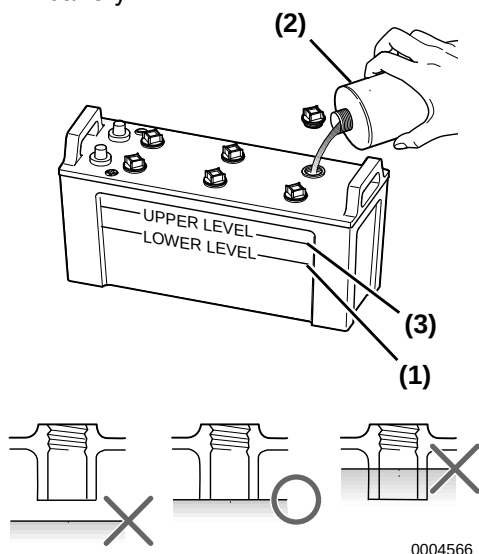

Figure 12
4. If the level is lower than the minimum, fill level (**Figure 12, (1)**), fill with distilled water (**Figure 12, (2)**) (available in the grocery store) up to the upper limit (**Figure 12, (3)**) of the battery.